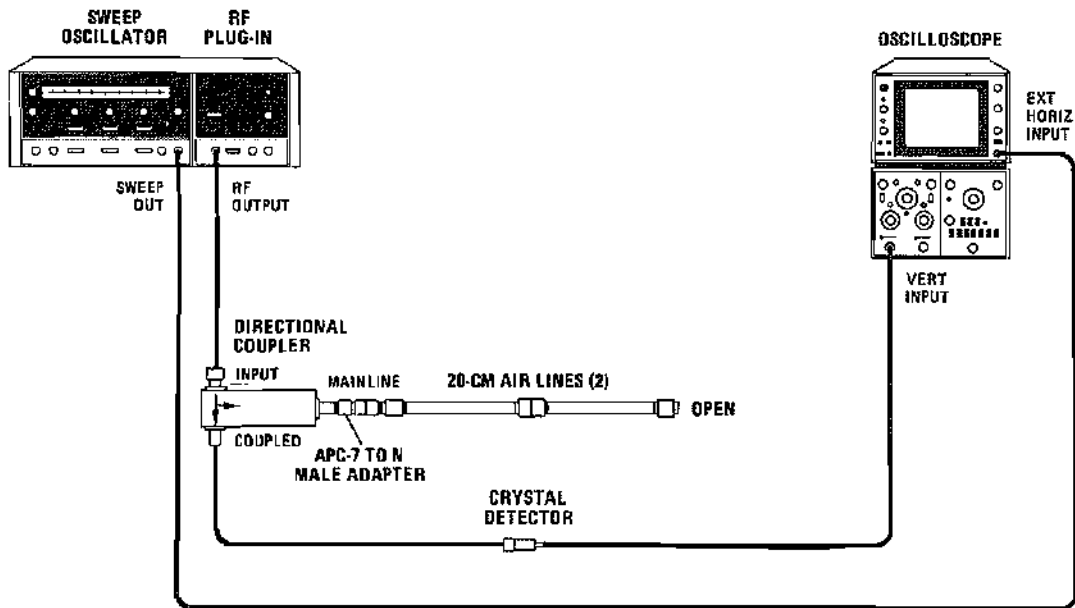

Figure 4-13. Equivalent Source SWR Test Setup
- a. Connect equipment as shown in Figure 4-13.